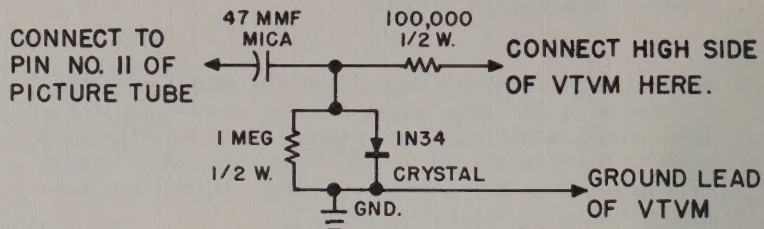

Fig. 7. Sound Alignment Test Circuit
- Sound alignment test circuit shown in Fig. 7.
3. Connect the signal generator output through a .005 mfd. capacitor to test point (E) shown in the schematic diagram. Ground the shield of the generator output cable to the TV chassis.
4. Connect the sound alignment detector circuit and VTVM as shown in Fig. 7. Adjust the 4.5 mc. generator output (unmodulated) to give a 1 volt reading on the VTVM.
6. Disconnect the test circuit and connect the VTVM to test terminal (B) (Pin 2 of FM detector, V-113). See schematic diagram.
8. Connect the VTVM to test terminal (C), shown in the schematic diagram. Adjust the secondary of T-107 (top core) at 4.5 mc. for the zero reading which occurs between the positive and negative peaks. If the zero reading occurs at more than one setting, use the position nearest the top limit of the core.